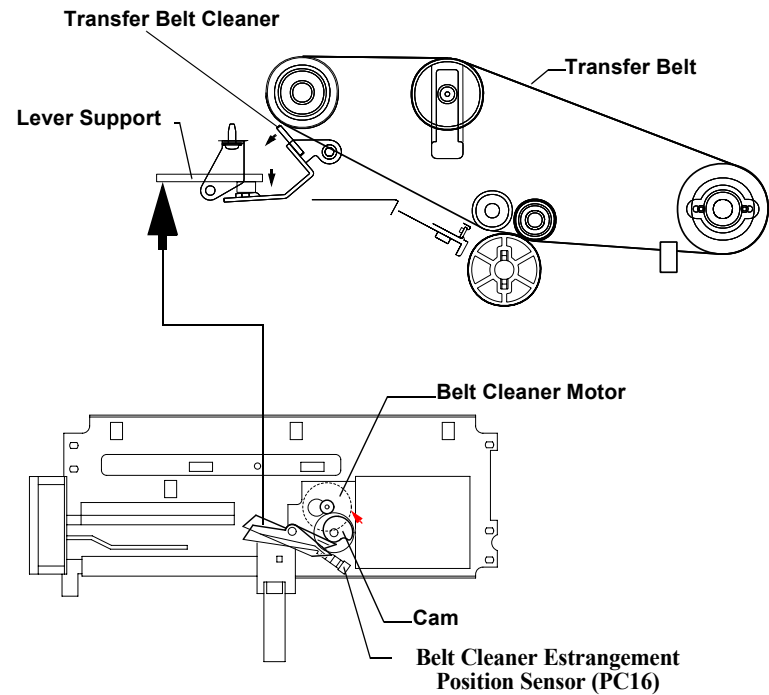

Figure 2-26. Transfer Belt Cleaner Estrangement
- Transfer belt cleaner turns cleaner motor ON, rotates cam to rotate the lever holder, and pushes the (↓) part in Figure 2-26 down and estrange the transfer belt cleaner from the transfer belt.